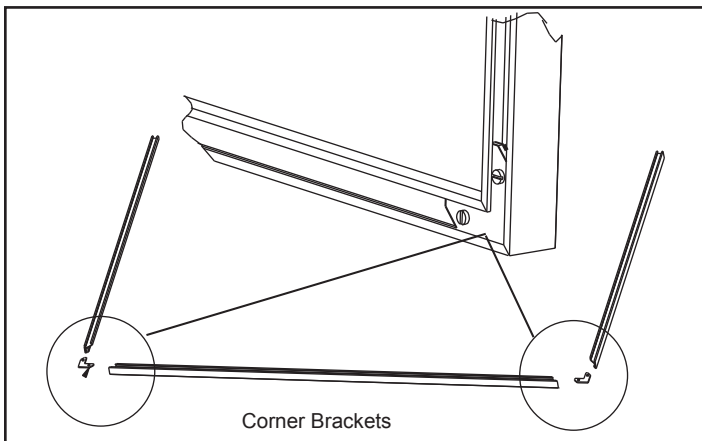

Figure 22.2
4. Using a standard flat screw driver tighten the corner brackets. **Figure 22.2.**